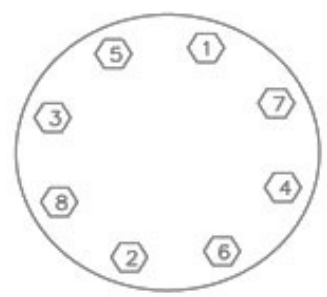

**Fig 3.4 : Installation of valve into pipe line.**
- b) Do not use flange gaskets Ref to fig 3.4.